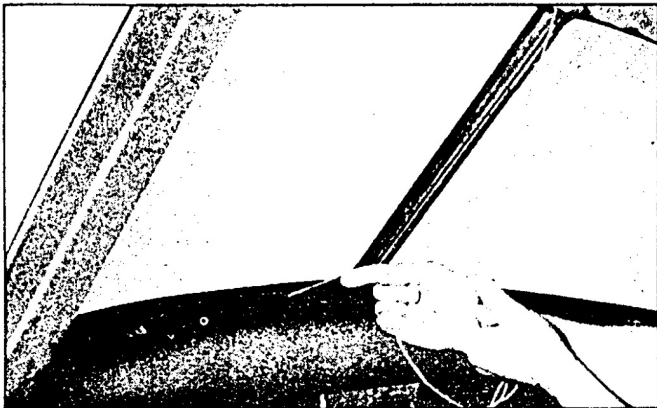

Fig. 17—Raising Inner Lip of Channel Over Pinch-Weld
- a. Apply a $\frac{3}{16}$ " to $\frac{1}{4}$ " continuous bead of sealer along the outside rabbet of the opening just below the pinch-weld as indicated at (1).
- b. Apply a $\frac{3}{16}$ " to $\frac{1}{4}$ " bead of sealer across the windshield center bar at top and bottom as indicated at (2).
7. With a helper, position and hold the glass and its channel firmly in the windshield body opening. Then, use the string previously placed in the pinch-weld cavity of the rubber channel to pull the inner lip of the channel over the pinch-weld (fig. 17).